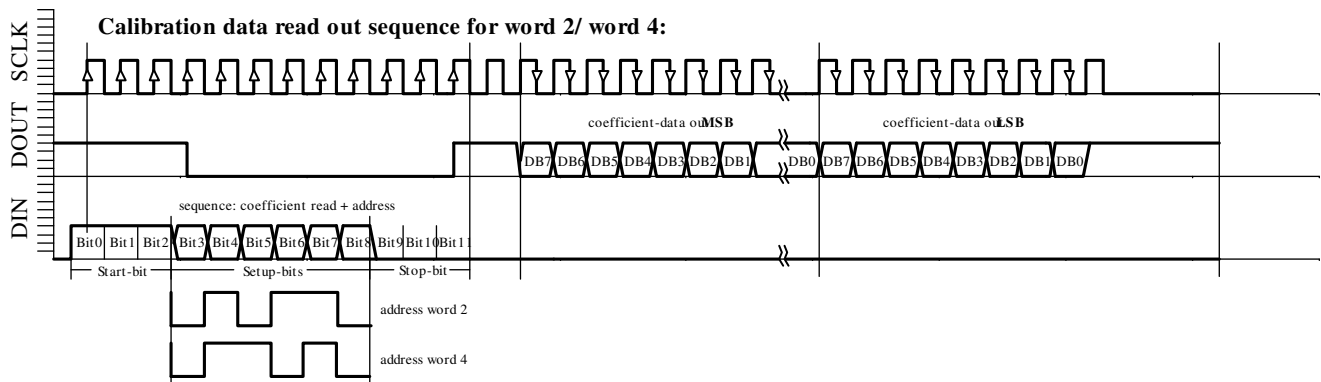

Fig. 6d: W2, W4 READING sequence.
- Calibration data READOUT sequence for Word2 (Figure 6d)
- Calibration data READOUT sequence for Word4 (Figure 6d)